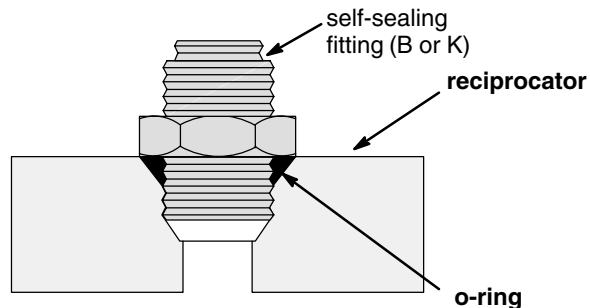

Fig. 4
4. Slowly loosen the hydraulic supply (58) and return (5) fittings to relieve any pressure, and remove the hoses. Install plugs on the tube fittings and in the hose ends. Check the o-rings (5a, 58a) on the fittings, and replace them if they are worn or damaged. See Fig. 4 and the **Parts Drawing**.
5. Using a strap wrench on the displacement cylinder (108), screw it out of the pump adapter (43), and pull it off the pump.
6. Pull the connecting rod (117) down as far as it will go. Remove the cotter pin (118) from the bottom of the displacement rod assembly (34), and unscrew the connecting rod until it is free.
3. Loosen both nuts on the fluid tube (45). Use a wrench to rotate the tube fittings (1,58) to the side, and remove the tube (45). Check the o-rings (1a,58a) on the fittings, and replace them if they are worn or damaged. Install plugs in the fittings to prevent contamination. See Fig. 4 and the **Parts Drawing**.